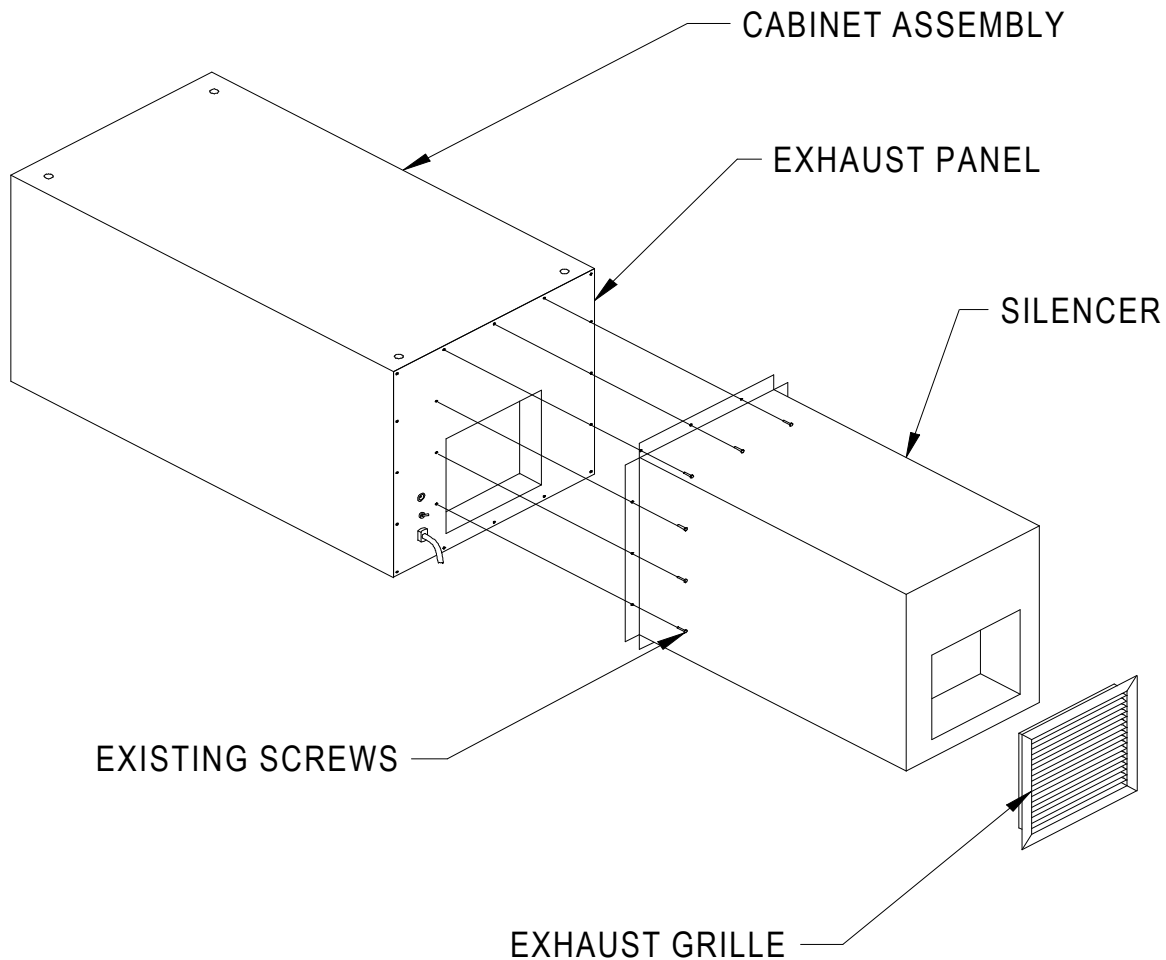

FIGURE 5
3. Remove screws from exhaust panel, along top, bottom and one (1) side (9 places).
4. Place Silencer over exhaust panel as shown in **Figure 5**.